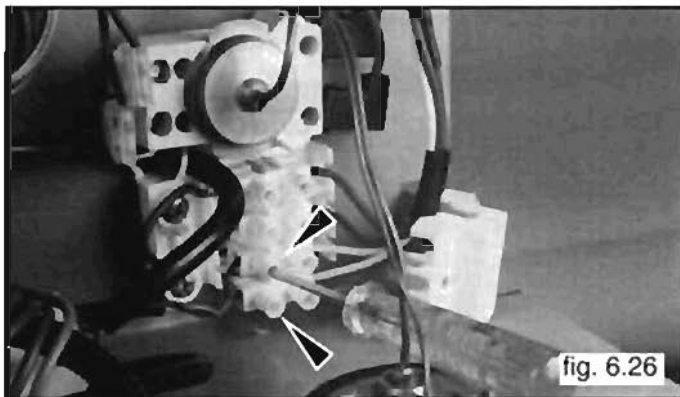

fig. 6.26
- 5 Loosen the clamps indicated in the fig. 6.26 and remove the burned out probe.